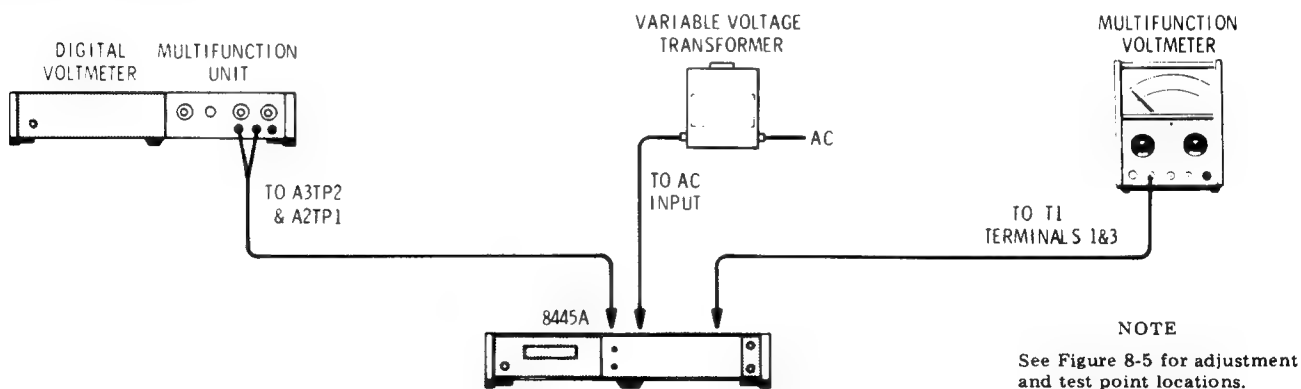

Figure 5-1. Power Supply Check and Adjustment Test Setup
1. Connect test setup as indicated in Figure 5-1.